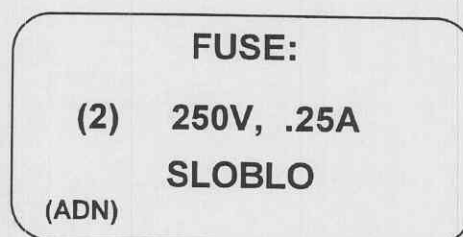

Figure 1-11. Fuse decal.
(3) A decal (located on the back of the APS module) providing information about the fuse is depicted in figure 1-11.